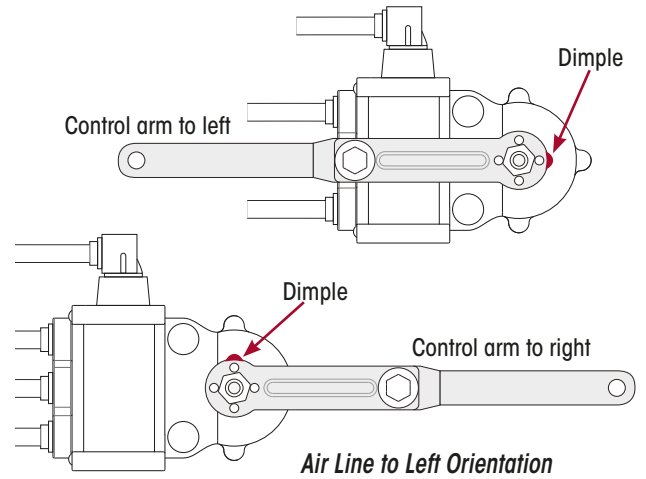

Figure 4: Valve & Arm Orientation with Identifying Dimple
1. Refer to manufacturer's instructions or to the notes made before removing the previous HCV. The HCV may be installed in a vertical or horizontal position with the control arm in either left- or right-hand position. Determine the correct HCV dimple, control arm position and orientation for the vehicle. Refer Figure 4.
2. Fasten the control arm to the valve body making sure the alignment identifier dimple on the cap is in the proper position for the valve orientation. Apply a thread locking compound to the shaft thread and tighten the Nyloc nut to 2.25 Nm (20 in. lbs.). Refer Figure 4.
- Confirm control arm and alignment dimple are in their correct positions. Refer Figure 4.